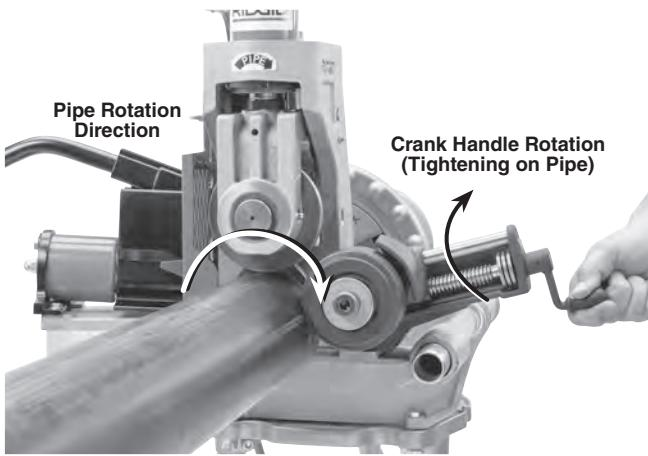

Figure 18 – Stabilizer Positioning
The stabilizer can only be used with the machine REV/OFF/FOR switch in the REV position (pipe rotation marked on groover, *Figure 18*). If used with the machine REV/O-OFF/FOR switch in the FOR position, the pipe will spiral/track out of the groove rolls.
3. Rotate the stabilizer crank handle to bring the roller in contact with the pipe. Rotate the crank handle an additional one (1) turn to preload the roller against the pipe (*Figure 18*). Do not reach across the pipe to adjust the stabilizer.